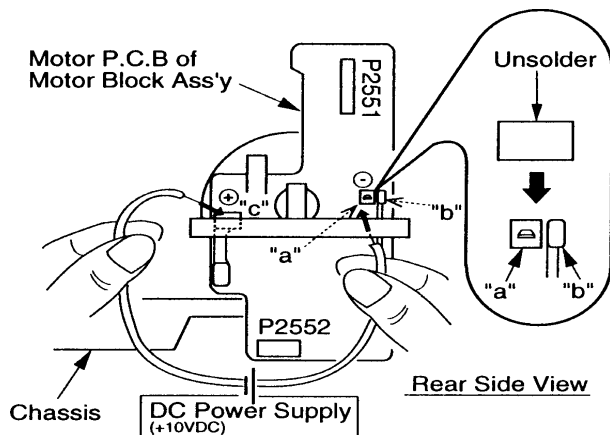

Fig. 13 - Electrical Method (1)
1. Remove the solder as shown in Fig. 13 and connect the positive lead of a 10.0VDC power supply to point (a). Connect the negative lead of the power supply to point (c).